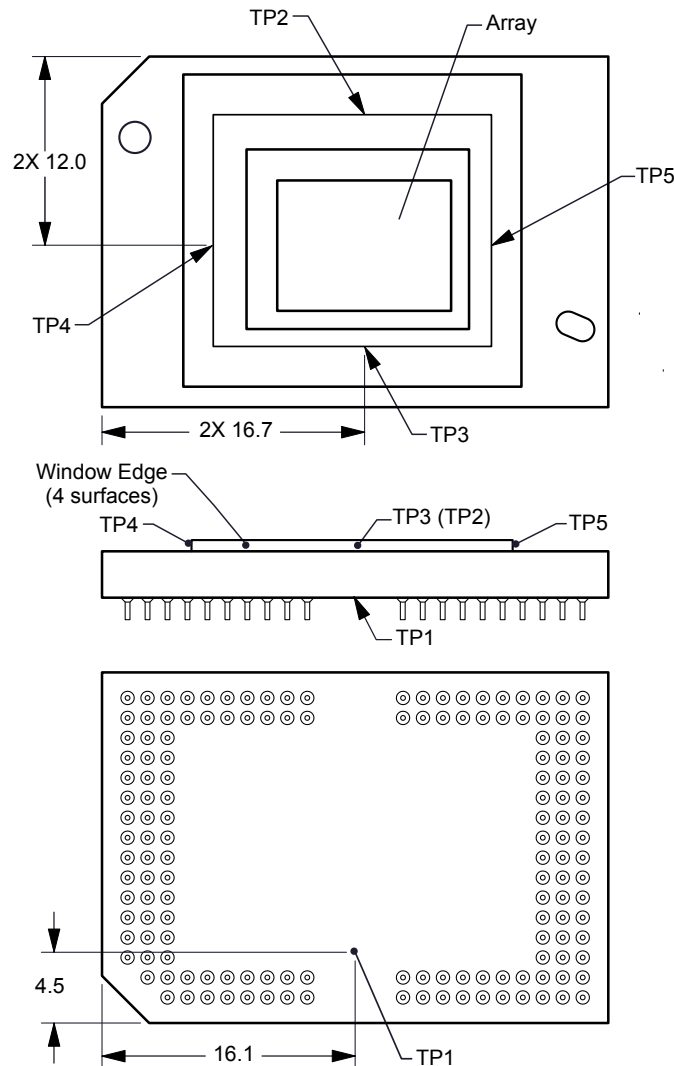

Figure 6-1. DMD Thermal Test Points
Micromirror array temperature cannot be measured directly, therefore it must be computed analytically from measurement points on the outside of the package, the package thermal resistance, the electrical power, and the illumination heat load. The following equations show the relationship between array temperature and the reference ceramic temperature, thermal test TP1 Figure 6-1 shown above:
- T_{CERAMIC} = Measured ceramic temperature (°C), TP1 Figure 6-1
- $R_{\text{ARRAY-TO-CERAMIC}}$ = Thermal resistance of package specified in Section 5.5 from array to ceramic TP1 Figure 6-1 ($^{\circ}\text{C/W}$).
- Q_{ARRAY} = Total DMD Power (electrical + absorbed) on array (W).
- $Q_{\text{ELECTRICAL}}$ = Nominal electrical power (W)
- Q_{INCIDENT} = Incident illumination optical power (W)
- $Q_{\text{ILLUMINATION}}$ = (DMD average thermal absorptivity $\times$ Q_{INCIDENT}) (W)